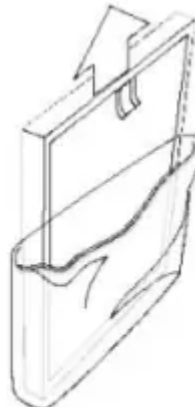

Fig 2
2. Take the 3-in-1 composite filter out of the plastic bag. (Fig 2)